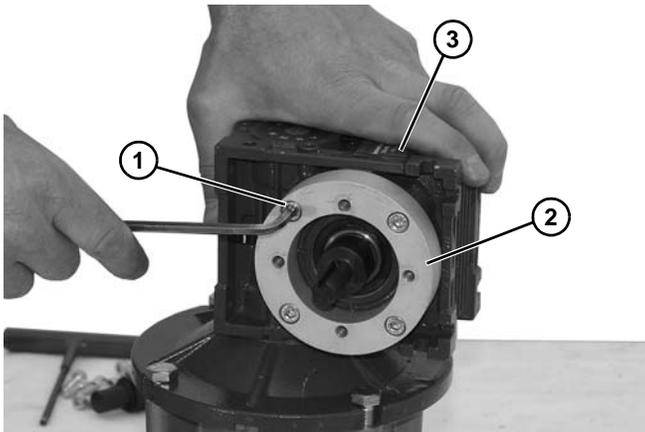

Figure 28
Step 6 and (Figure 28, item 2) is required for standard load VFD gearmotors only.
- Loosen four (4) socket head screws (**Figure 28, item 1**) and detach spacer (**Figure 28, item 2**) from gear reducer (**Figure 28, item 3**).
9. Install spacer (Figure 28, item 2) onto gear reducer (Figure 28, item 3) with four (4) socket head screws (Figure 28, item 1).
5. Install spacer (**Figure 28, item 2**) onto gear reducer (**Figure 28, item 3**) with four (4) socket head screws (**Figure 28, item 1**).